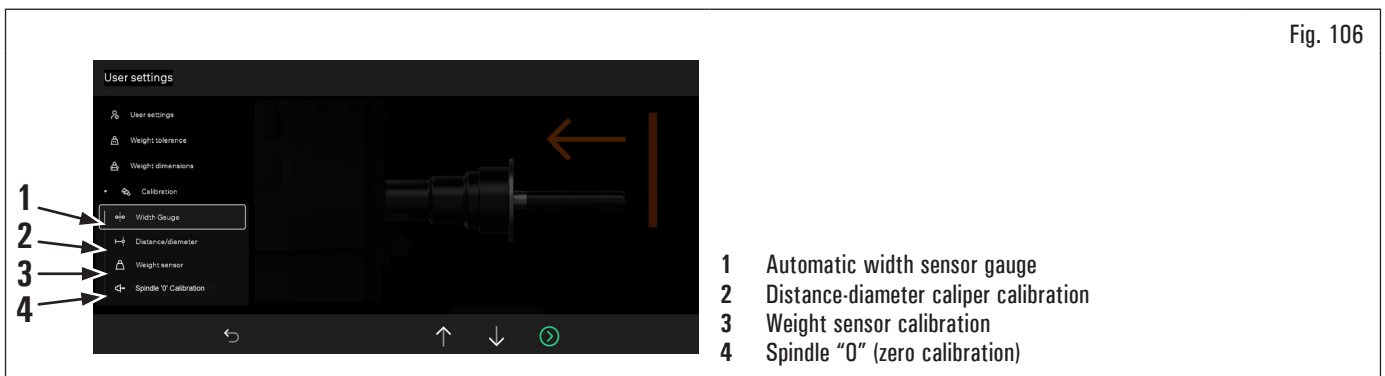

Fig. 106
Press the icon (Fig. 106 ref. 1) to display the following screen page on the monitor:
Press the icon (Fig. 106 ref. 2) to display the following screen page on the monitor:
1. press the icon (Fig. 106 ref. 3) to display the following screen page on the monitor:
1. Press the icon (Fig. 106 ref. 3) to display the following screen page on the monitor:
Press the icon (Fig. 106 ref. 4) to display the following screen page on the monitor: